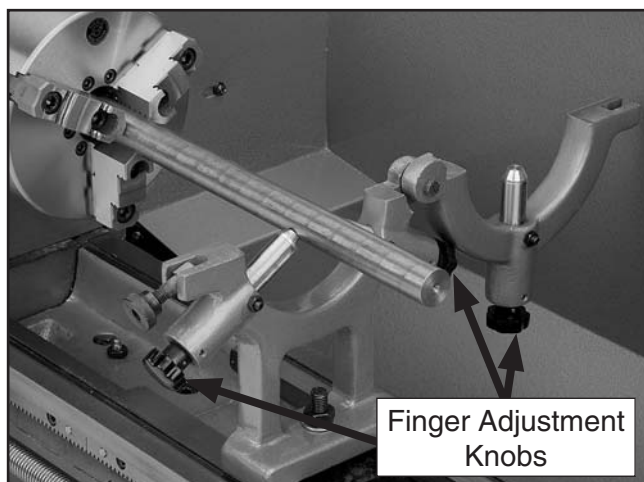

Figure 39. Positioning workpiece in steady rest.
3. Loosen the knurled screw and open the steady rest so a workpiece can fit inside (see **Figure 39**).